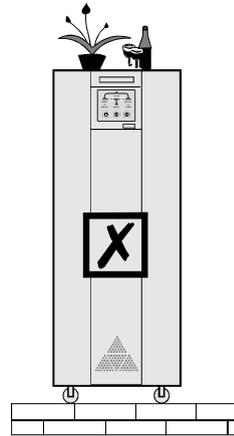

Figure 8
5. Do not lay goods on the UPS. (Figure 8)